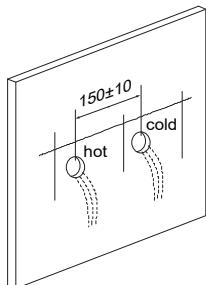

Figure 1
- b) Make sure the 2 curved connectors ⑫ are installed deadly straight into the wall. The centre distance between 2 curved connectors is $150\pm10\text{mm}$ and the centre line remains horizontal (Figure 1).